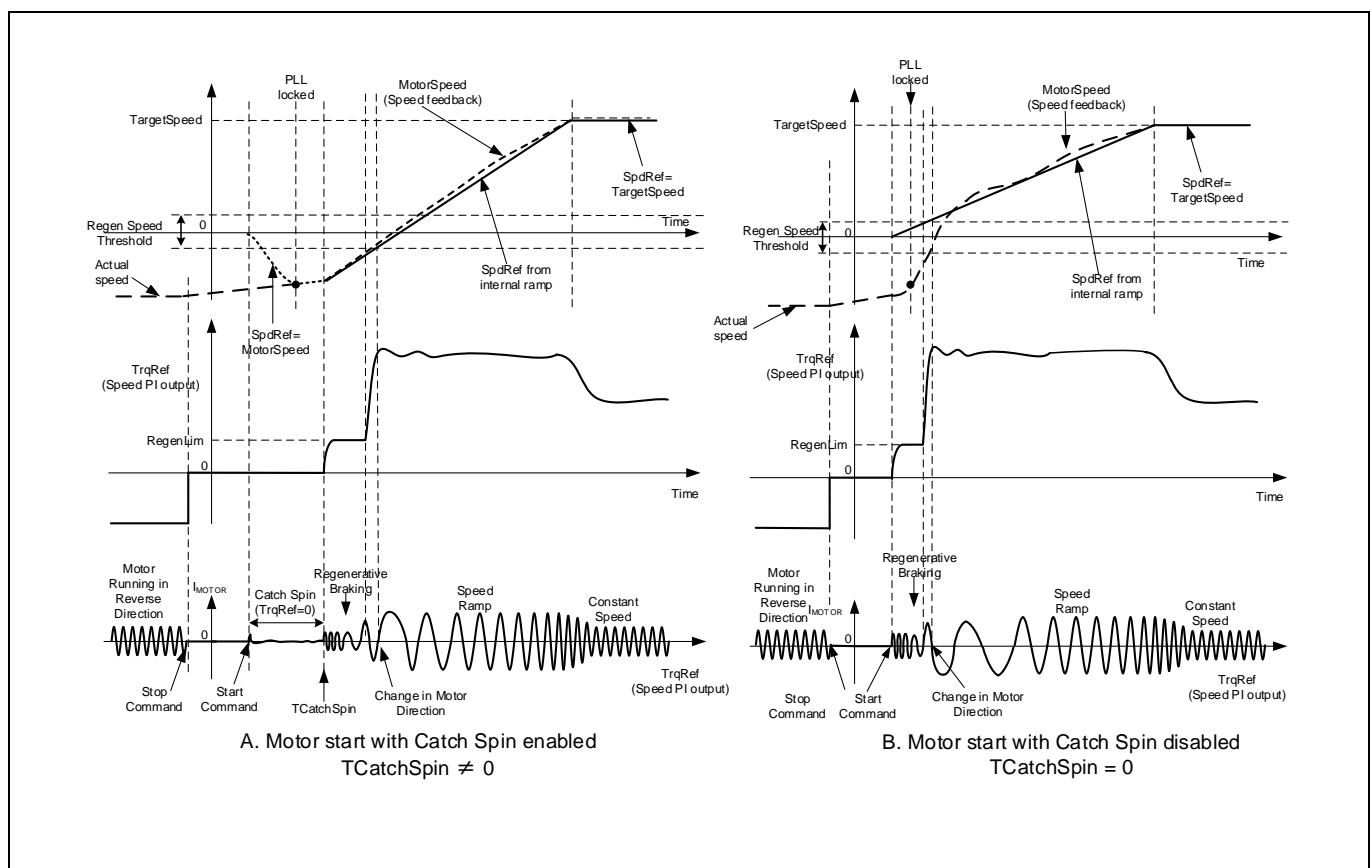

Figure 30 Reverse Catch Spin - Motor start with/without catch spin
If the motor is spinning in the opposite direction as desired, then the catch spin sequence is termed as 'Reverse Catch Spin'. Figure 30 (A) shows an example of 'Reverse Catch Spin'. In this example, at the start command, the motor is already spinning (in the opposite direction). During the catch spin sequence, no motoring current is injected. After the TCatchSpin time has elapsed, the motor is still spinning in opposite direction at a speed higher than Regen Speed Threshold (RegenSpdThr), thus an injected torque, limited by the value defined in RegenLim parameter, forces the motor to decelerate via regenerative braking. Once the speed of the reverse spinning motor falls below Regen Speed Threshold (RegenSpdThr), the injected torque is limited by MotorLim (RegenLim ≤ MotorLim). The injected torque forces the motor to come to a stop and start accelerating in the desired spin direction, following the speed ramp reference to reach the set target speed.
If catch spin is disabled, normal speed control starts immediately after the start command, without waiting for PLL to be locked. Usually the control would still be able to start a spinning motor, but motor speed may not increase/decrease seamlessly. As shown in Figure 30 (B), after the start command, the motor is still spinning at a speed higher than Regen Speed Threshold (RegenSpdThr), hence the injected torque limited by the value defined in RegenLim parameter, forces the reverse spinning motor to decelerate via regenerative braking. Once the speed of the reverse spinning motor falls below Regen Speed Threshold (RegenSpdThr), the injected torque is limited by MotorLim (RegenLim ≤ MotorLim). The injected torque forces the motor to come to a stop and start accelerating in the desired spin direction, following the speed ramp reference to reach the set target speed.